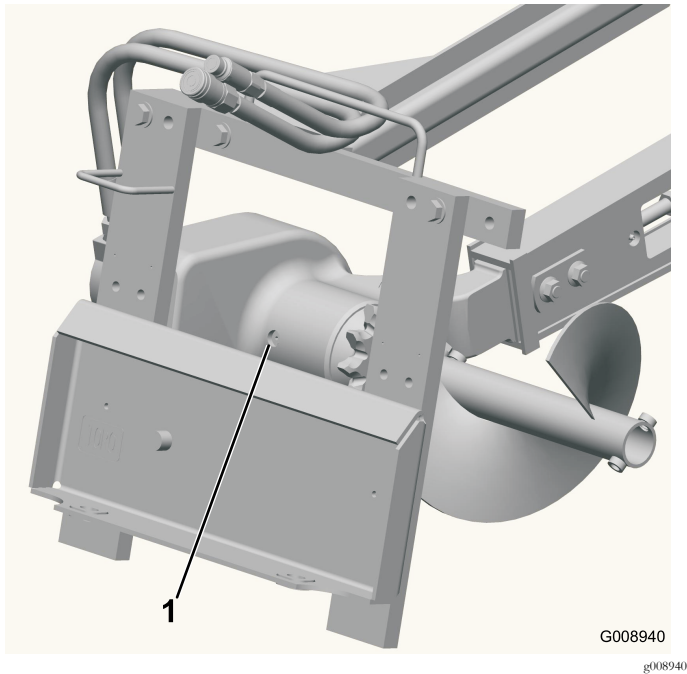

Figure 10
3. Clean the area around the fill-hole plug on the bearing case (Figure 10).
4. Remove the plug from the fill hole (Figure 10).
1. Clean the area around the fill-hole plug on the bearing case (Figure 10).
2. Remove the plug from the fill hole (Figure 10).